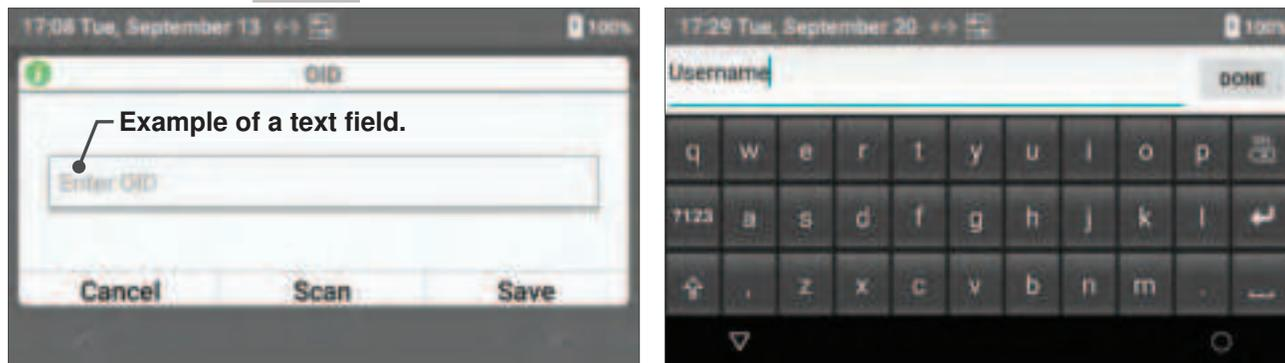

Figure 10: Display Virtual Keyboard
- To display the virtual keyboard, touch a text field (e.g., when the **Enter OID** dialog box is displayed [Figure 10], select ).